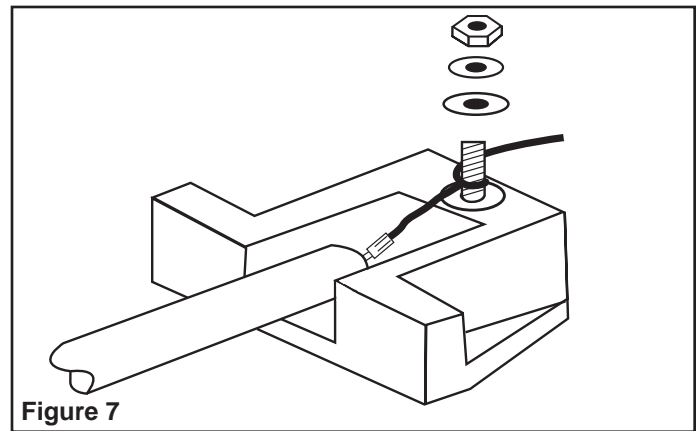

Figure 7
1. Remove terminal cover at each end of fixture to gain access to terminal blocks. Loosen #10 hex nut on terminal stud. Then wrap element lead around terminal one full turn as shown in Figure 7. Tighten nut, making sure there is some slack in the lead after the attachment is made. Cut off and discard extra wire.